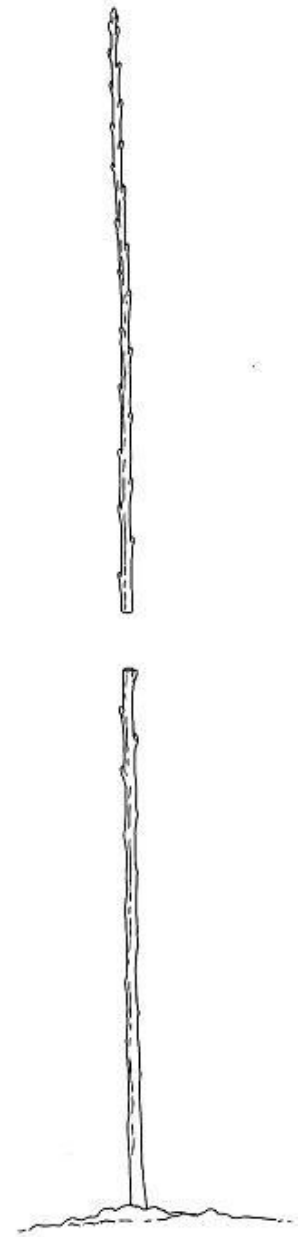

Figure 5
- Head nursery tree 18 inches above ground (Figure 5).